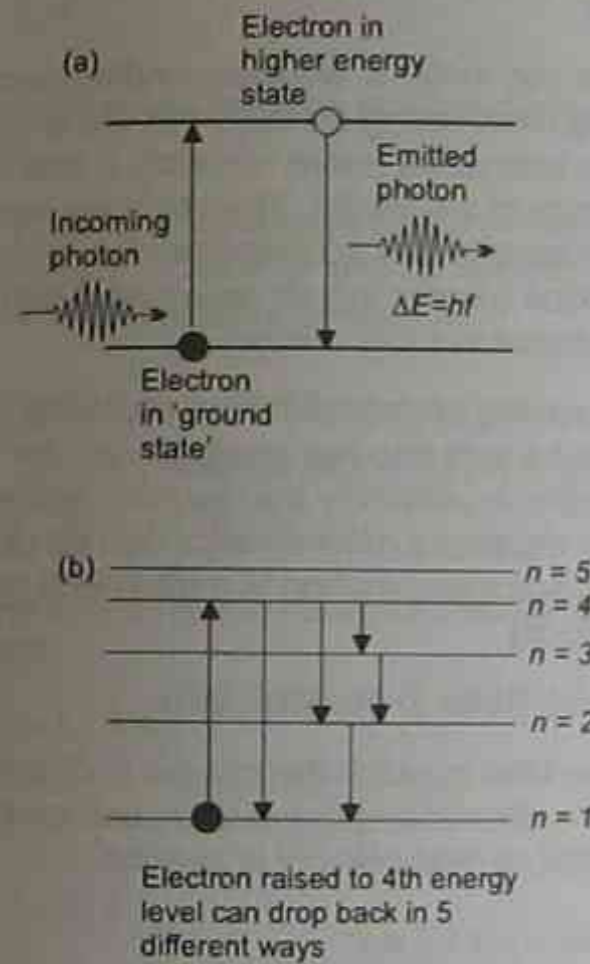

Figure 7.19
- (a) When an element is excited by passing an electrical discharge through it, electrons absorb energy in discrete amounts and move to a higher energy level. Almost immediately they 'fall back' to a lower energy level, emitting a photon of light as they do so as in the diagram below (Figure 7.19). The frequency of the photon is given by $\Delta E = hf$ where ΔE is the energy difference between the two energy levels, h is Planck's constant and f is the frequency. When the electrons fall back to the second energy level, they form the Balmer series. This can occur in a number of ways accounting for the series of lines.